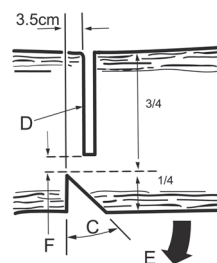

FIG. 1
Usually, felling a branch consists of two main cuts, the face cut (C Fig.1) and the undercut (D. Fig. 1), which is needed to fell the branch.
- Begin with the face cut (C) on the side of the branch facing the direction of the fall (E).
- The cut must be as deep as about ¼ of the trunk diameter (F).
- After this operation, make the cut (D) on the other side of the branch at about 3-5 cm above the height of the face cut (Fig. 1).